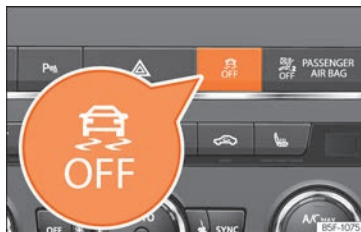

Fig. 288 Centre console: Button for switching on/off the ESC and ASR
- Press the  button »» Fig. 288 for approximately 1 second to switch to ESC Sport mode.
- Press the button  »» Fig. 288 for approximately 3 seconds to switch off the Electronic Stability programme (ESC), including the ASR function. The  control lamp lights up and the **ESC OFF** message is displayed permanently on the instrument panel display.
- The ASR and ESC function are reconnected by pressing the button  »» Fig. 288.